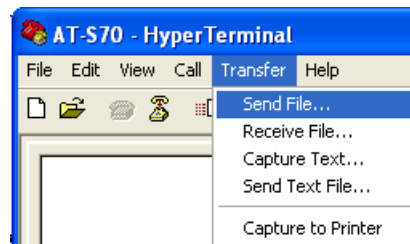

Figure 42. HyperTerminal Window
2. Select **Send File** from the pull-down menu, as shown in Figure 42.